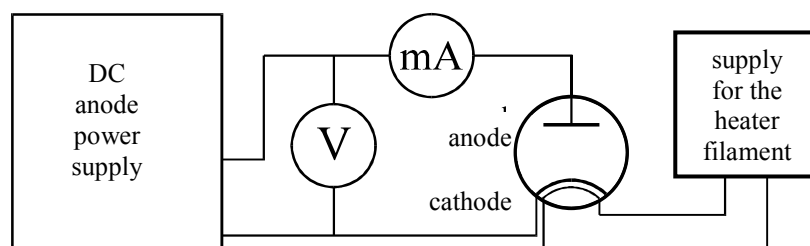

Fig. 1. Experimental setup for determination of diode characteristics. The voltmeter and ammeter shown in the figure are built in the anode power supply.
The aim of experiment is to obtain the characteristics of diode, it means the anode current I_a as a function of anode voltage U_a . The experimental set is shown in fig.1.
2. Build the circuit according to the scheme given in fig. 1.